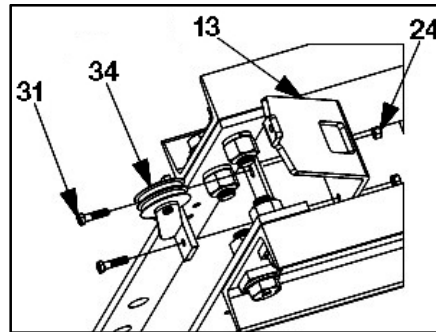

Fig. 9: Install dual sheave mount weldment
11. Install the Dual Sheave Mount Weldment [item #34] and Cable Anchor Bracket [item #13] onto the upper cross piece of the Left Hand Upright Frame Weldment, [item #10] using (2) 3/8" X 1 1/2" Cap screws [item #31] and (2) 3/8" Nuts [item #24] as shown in Fig. 9.